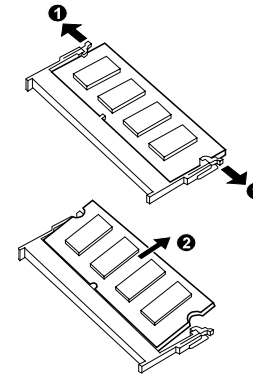

Figure 2-15 Remove the SO-DIMM
3. Full the retaining clips outwards (❶) and remove the SO-DIMM (❷). (Figure 2-15)